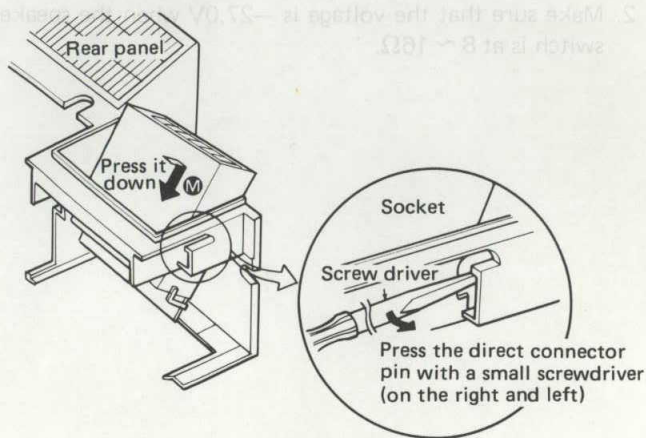

Fig. 9
2. Tilt the direct connector as in Fig. 9 and press it down. (in the direction of the arrow ⑤ (Fig. 9) to remove.